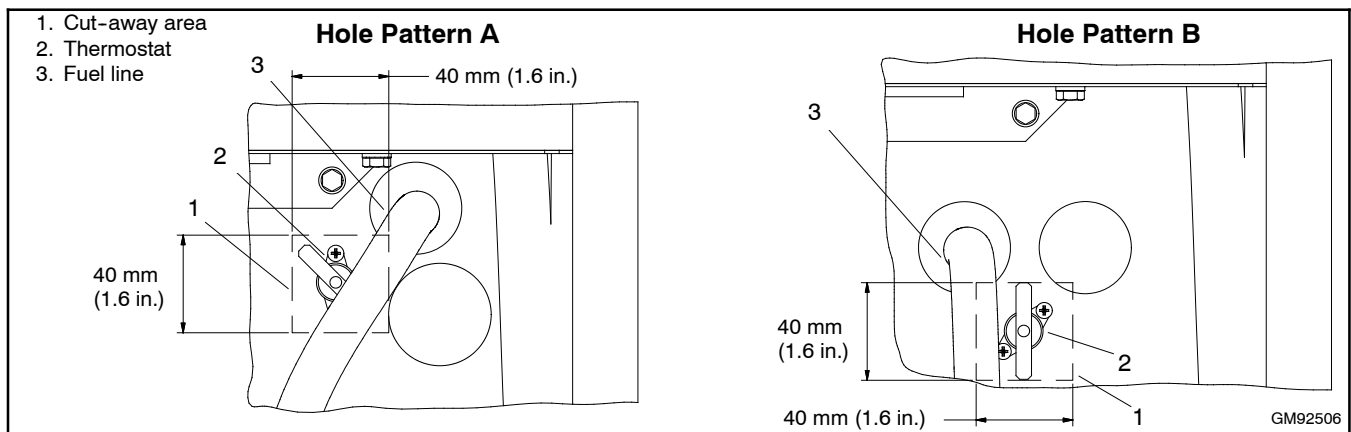

Figure 5 Insulation Removal Diagram
12. Mark the thermostat location on the insulated side of the bulkhead. See Figure 5.